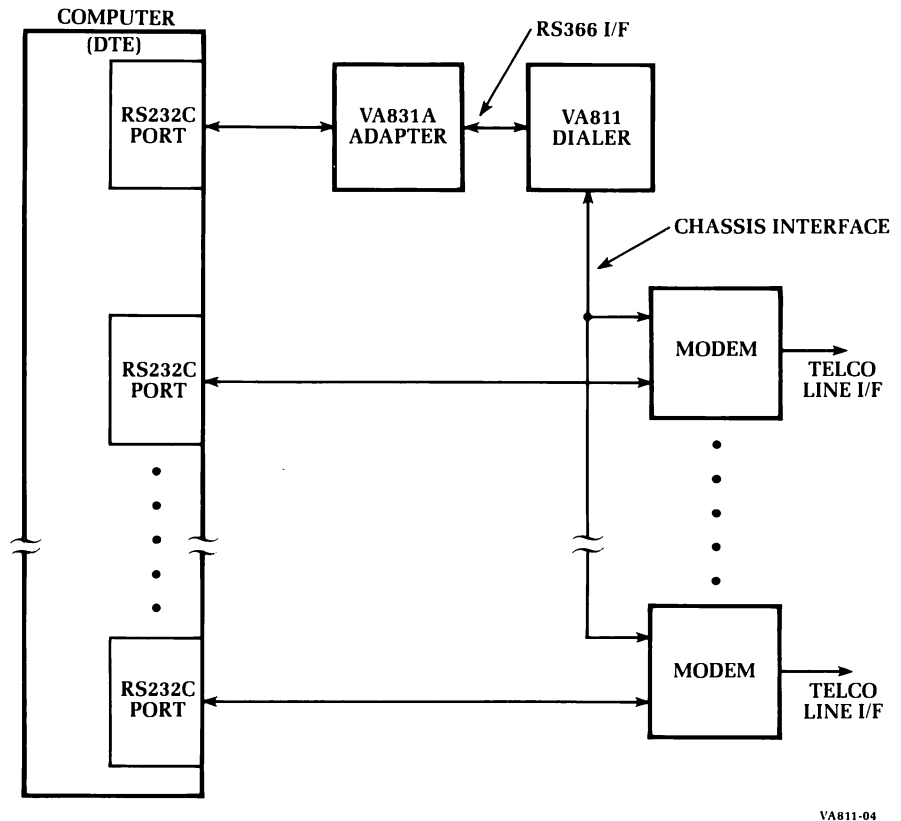

Figure 1-3. Multiline Dialer (MACS) Configuration
For multiline dialer operation, the dialer and associated modems are normally connected as shown in Figure 1-3. As indicated in the figure, the dialer connects to the computer via the VA831 adapter (or directly to an RS366 port, if the adapter is not used) and controls up to 151 modems via the MACS chassis interface. Each modem connects to a separate RS232C port at the computer, and each modem connects directly to the telephone line. In this configuration, the dialer can address any of the modems via the chassis interface, inhibit the modem line connection, dial through the modem line interface, then transfer line control to the modem.
- Verify equipment configurations shown in Figures 1-1 and 1-2 (VA811-PS/SS) or Figure 1-3 (VA811-XM).